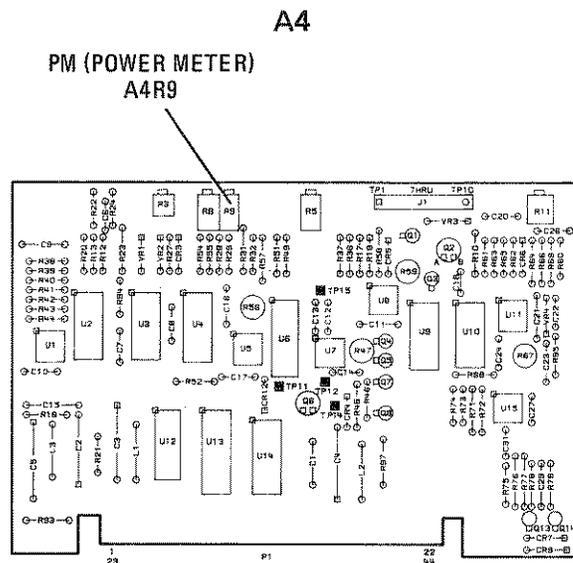

Figure 5-25. Power Meter Adjustment Location
If, during the following procedure, ALC loop oscillations occur, reduce loop gain by adjusting A4R11 (Figure 5-25) counterclockwise. This adjustment will be set in the next procedure.
4. Increase the 83540A POWER LEVEL by exactly 5.0 dBm. Adjust A4R9 "PM" (Figure 5-25) for a meter needle reading of 0 (83540A front panel power indication should approximate +10 dBm).